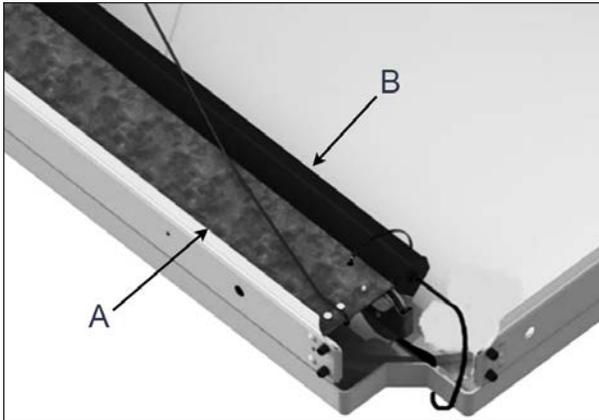
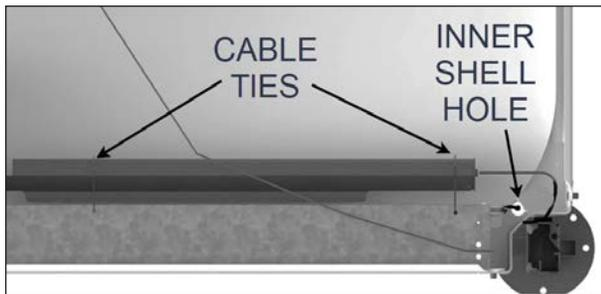

FIGURE 32: CABLE TIE REMOVAL
FIGURE 33: CABLE TIE LOCATIONS
4. While holding the outer shell open, cut and remove the two cable ties that hold the wire guard, see Figure 32 and Figure 33.
Ensure the wire is clear of the inner and outer shells before proceeding. The wire should only hang from the inner shell hole, see Figure 33.